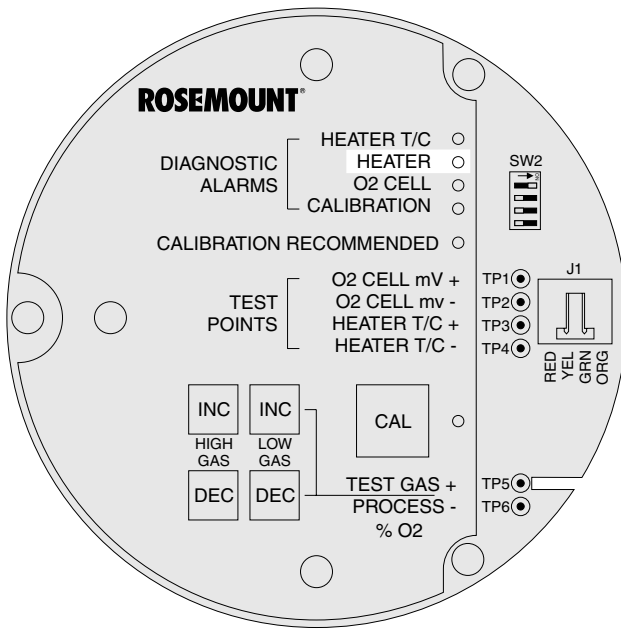

Figure 5-9. Fault 9, High Heater Temp
i. **Fault 9, High Heater Temp.** The HEATER LED flashes five times, pauses for three seconds, and repeats (Figure 5-9).